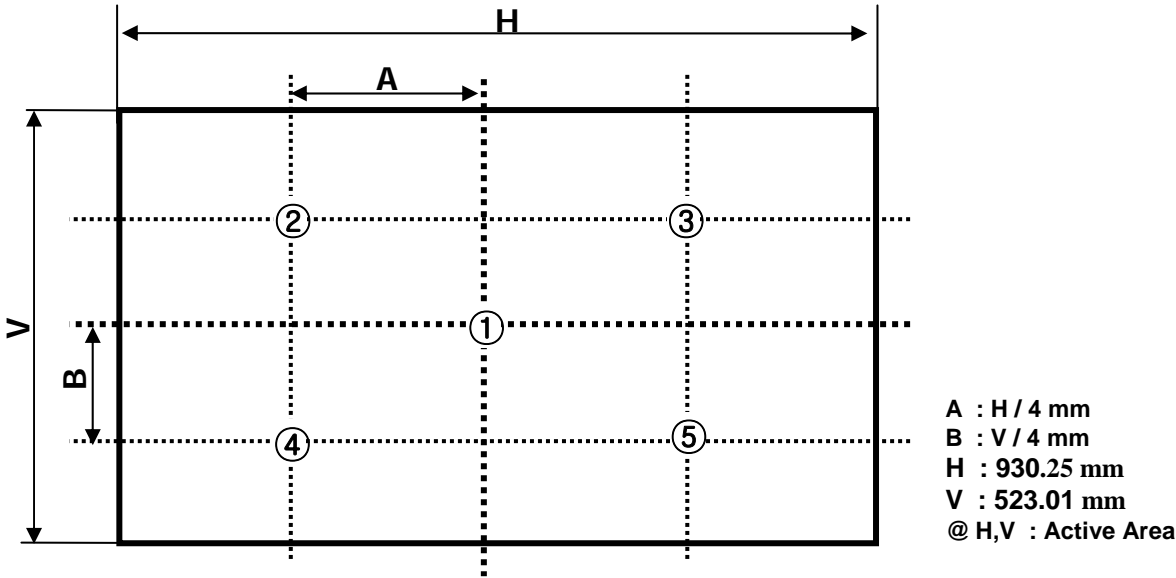

FIG.2 Measure Point for Luminance
n = the Position number(1, 2, 3, 4, 5), For more information, see FIG. 2.
2. Surface luminance are determined after the unit has been 'ON' and 30min after lighting the backlight in a dark environment at  $25 \pm 2^\circ\text{C}$ . Surface luminance is the luminance value at center 1-point across the LCD surface 50cm from the surface with all pixels displaying white. For more information see the FIG. 2.
For more information, see the FIG. 2.